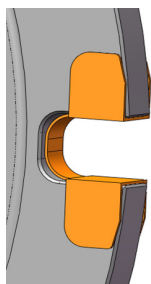

Fig 1: Wear clip to bell.
Step 2: Fit wear clip to bell slot. (Fig 1.)